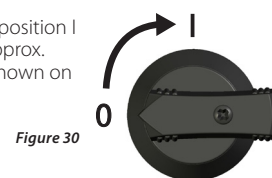

Figure 30
► Set the DC circuit breaker on the inverter to position I (Figure 30). After testing via the internal MSD (approx. 2 minutes), the power fed into the grid can be shown on the display (assuming that sunlight is present).